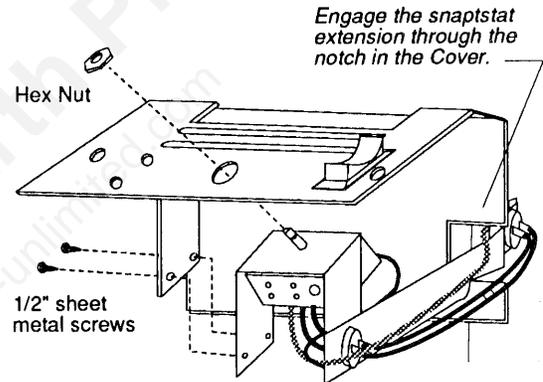

Figure 21. Install Rheostat/Snapstat assembly.
Step 6. Remove the plug from the Control Switch. Reach under the Back Panel and feed the Fan Rheostat/Snapstat assembly up to the top of the firebox. Secure the rheostat assembly to the Switch Cover the sheet metal screws supplied with the fan kit. Fig. 21.